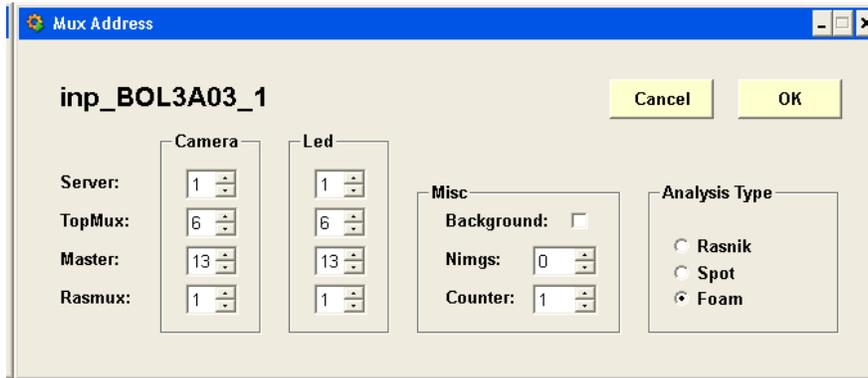

Figure 2.9: Main Parameter panel
12. *Main*: This panel, entitled confusingly Mux Address, is shown in Figure 2.9. It contains the most sensitive parameters, in particular the Camera and Led address. Also the Analysis Type should be handled with great prudence. Only the 'real' experts should consult this panel.